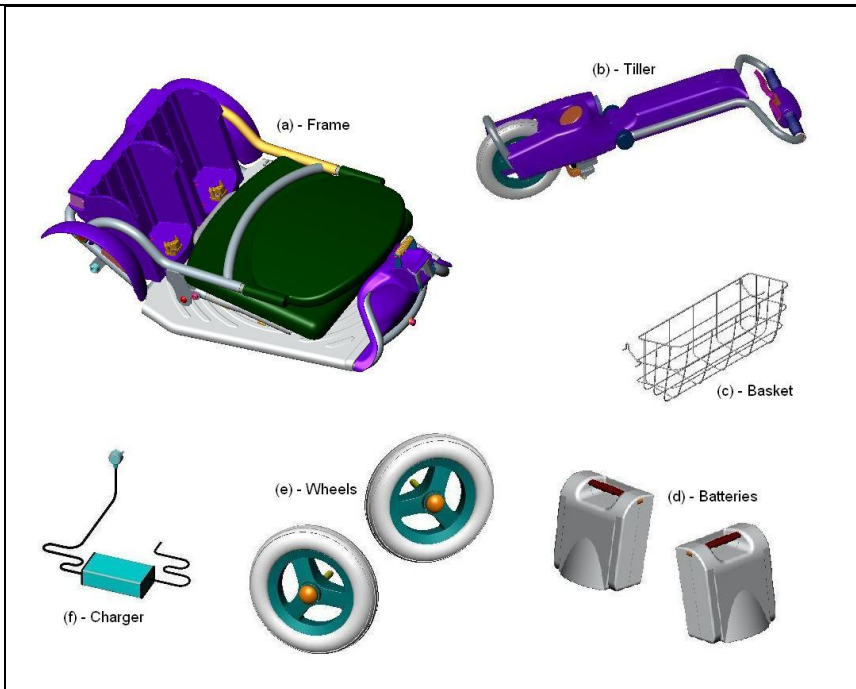

Figure 1
- Put all parts on the floor and put the empty box away, you should find the following parts (**see figure 1**):
The rear wheels (e - in **figure 1**) are to be assembled onto the frame (a- in **figure 1**).
The tiller (b - in **figure 1**) must be fixed to the frame (a - in **figure 1**).